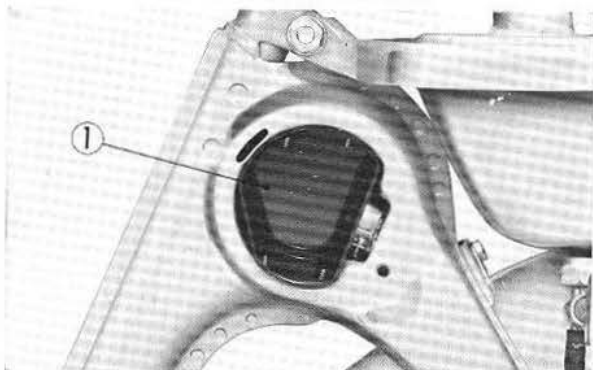

Fig. 1-28 ① Air cleaner case
- (5) Remove the dust from the inside of air cleaner case. (Fig. 1-28)